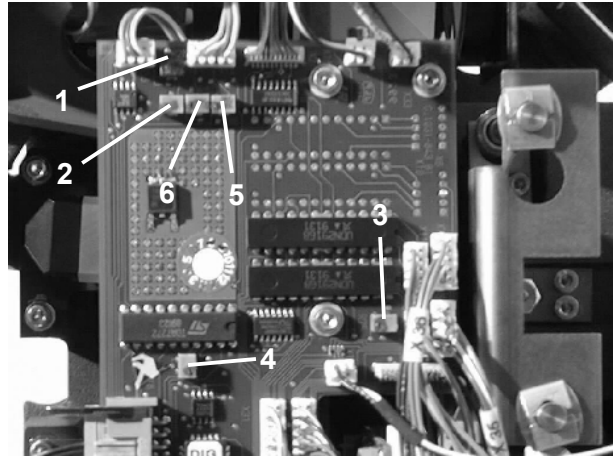

Fig. 48
- Use R 28 potentiometer ((1) Fig. 48) to set the laser power to $40 \pm 2\mu\text{W}$.
- Use R 30 potentiometer ((2) Fig. 48) to set the laser power to $400 \pm 4\mu\text{W}$.
- Adjust the R 75 potentiometer ((3) Fig. 48) in such a way that a voltage of + 3.4V is present at the potentiometer slider, measured against ground (ground connection is the square shaped hole pattern on the Digital IOL PCB).
- If the curve does not lie in the range required, use the R 70 potentiometer ((4) Fig. 48) to adjust the speed. Trigger a new test run every time the potentiometer has been re-adjusted.
- Use the R 86 potentiometer ((5) Fig. 48) to adjust the brightness of the surrounding field illumination in such a way that a well-illuminated image without glare of the test eye displayed.
- Use the R 87 potentiometer ((6) Fig. 48) to adjust the brightness of the keratometer measurement markings in such a way that they are imaged without glare with a bright center and a clearly visible but weaker halo.